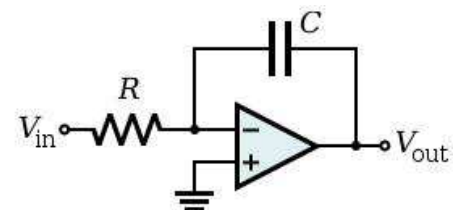

Figure 14
- 1- Construct the circuit shown in Figure 14 by using  $R=1\text{K}\Omega$  and  $C=1\mu\text{F}$ .